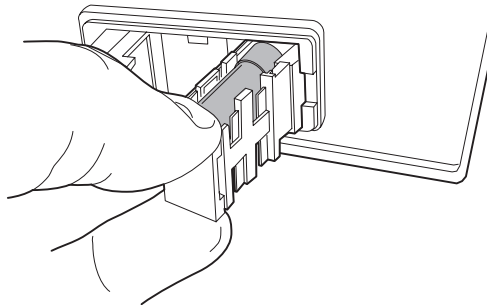

Figure 4-16 Replacing the Fuse Holder
5. While securing the fuses in the holder, slide it back into place (Figure 4-16).